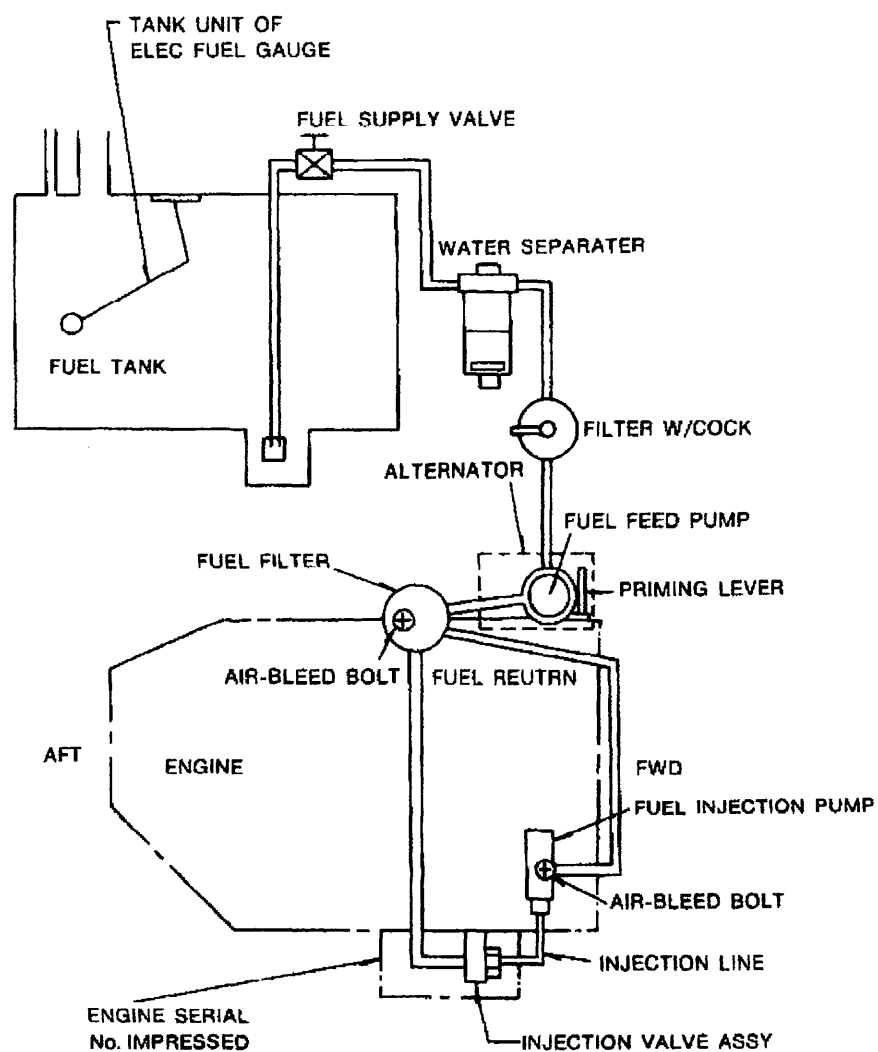

Fig. 23
- (3) Open the fuel supply valve on the fuel tank.
- (4) Turn on the valve of the fuel filter (see Fig. 23)
- 4) Move the priming lever of the fuel feed pump up and down. The fuel feed pump is located under the alternator forward on the port side of the engine (see Fig. 23).
- 5) Loosen the air-bleed bolt on the fuel injection pump (see Fig. 23) by one and a half or two turns. Move the priming lever up and down until all the air bubbles out. Secure the bolt.